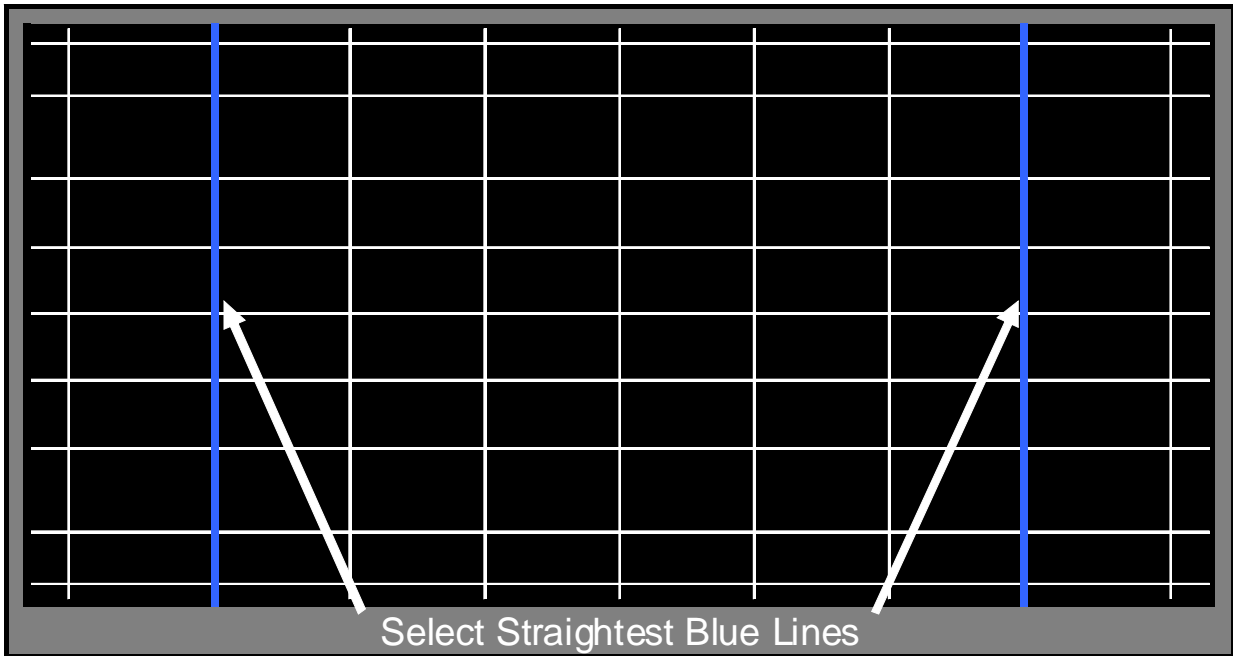

Figure 2: 4 by 3 Mode Pattern
8. Pressing "VIDEO" activates the 4x3 alignment mode, refer to *Figure 2*.